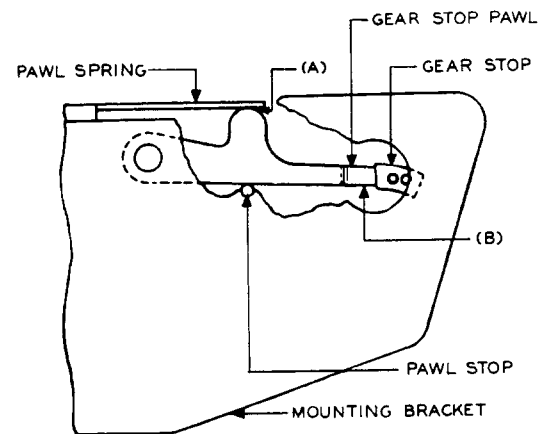

Fig. 9 - Gear Stop Pawl Position
(c) Fig. 9(A) - With the timer gear moved slightly from its normal position and with the pawl resting against the pawl stop, the pawl spring shall touch the pawl or if it does not touch the clearance between the pawl spring and the pawl, shall not exceed $1/64$ inch.
*(d) Readjust Only: Fig. 9(B) - The tension of the pawl spring shall be